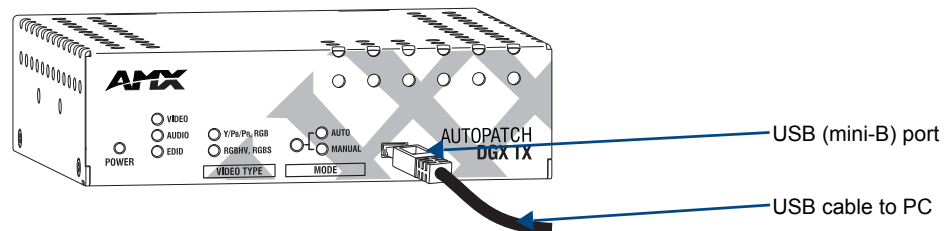

FIG. 41 Connect USB cable to PC and to module (DGX DVI TX shown)
3. Using a USB mini-B cable (FG10-5965 provided) connect the module to a PC that is running Windows (FIG. 41).*